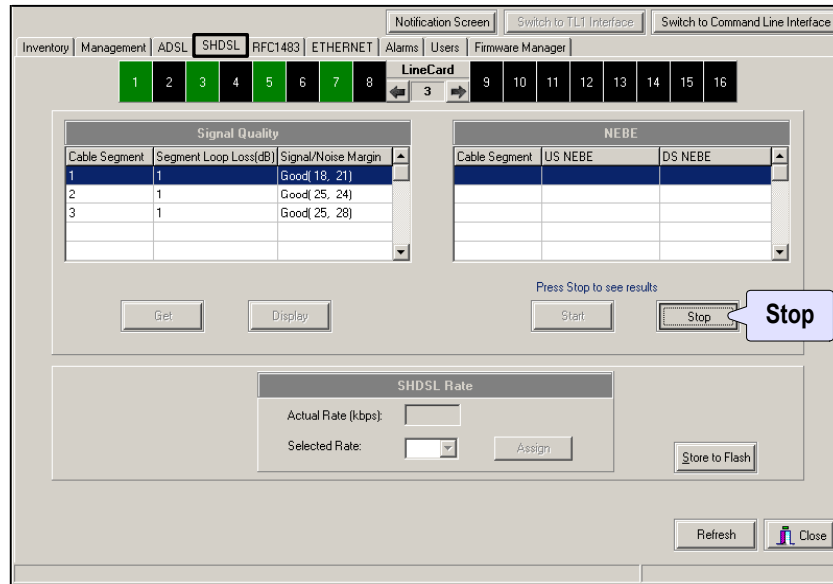

Figure 66 – Stop NEBE collection
- 4 Allow the amount of time to pass for which you wish to collect error data, and then click **Stop** (Figure 66).